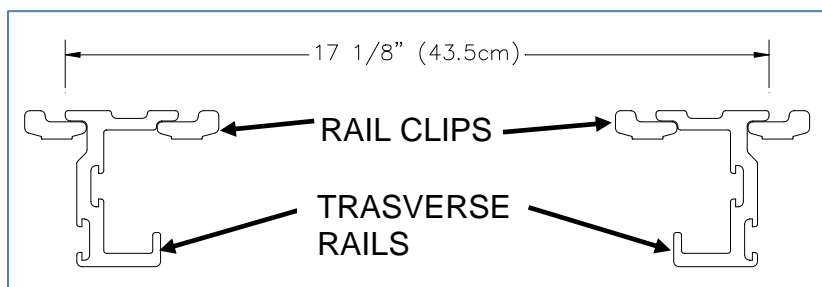

Figure 5
- Slide the transverse rails back and forth to center them under the rail adapter sub-assemblies and to align both ends. Make adjustments until the outside of the rails are spaced 17-1/8" (43.5cm) apart at both ends. See Figure 5. Tighten all hardware mounting the rail clips.